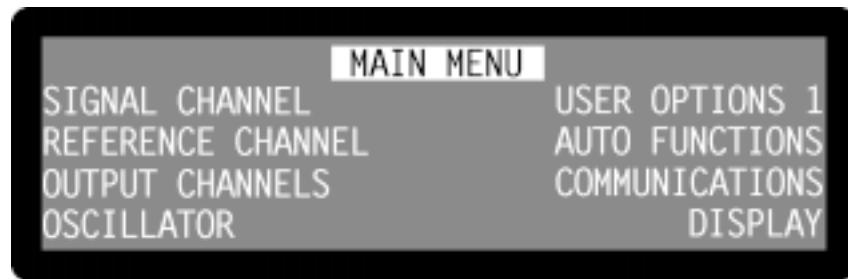

Figure 2-3, Main Menu
- 5) Wait until the opening display has changed to the Main Display and then press the front panel key marked **MENU** once to enter the Main Menu, shown below in figure 2-3.